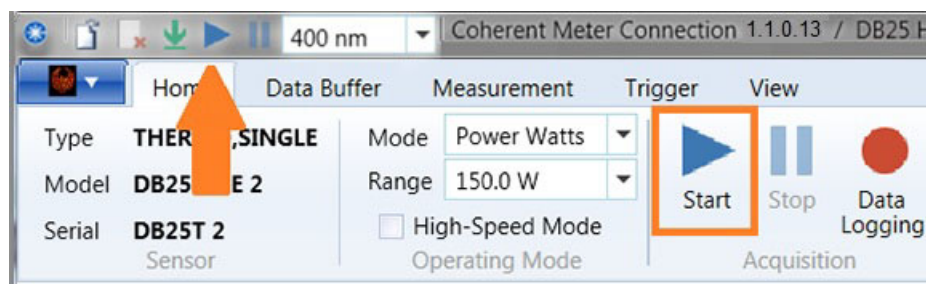

Figure 8-8. Start Data Collection
- a.) To begin data collection, press the **Start** icon in the toolbar or the Home tab, shown in Figure 8-8.